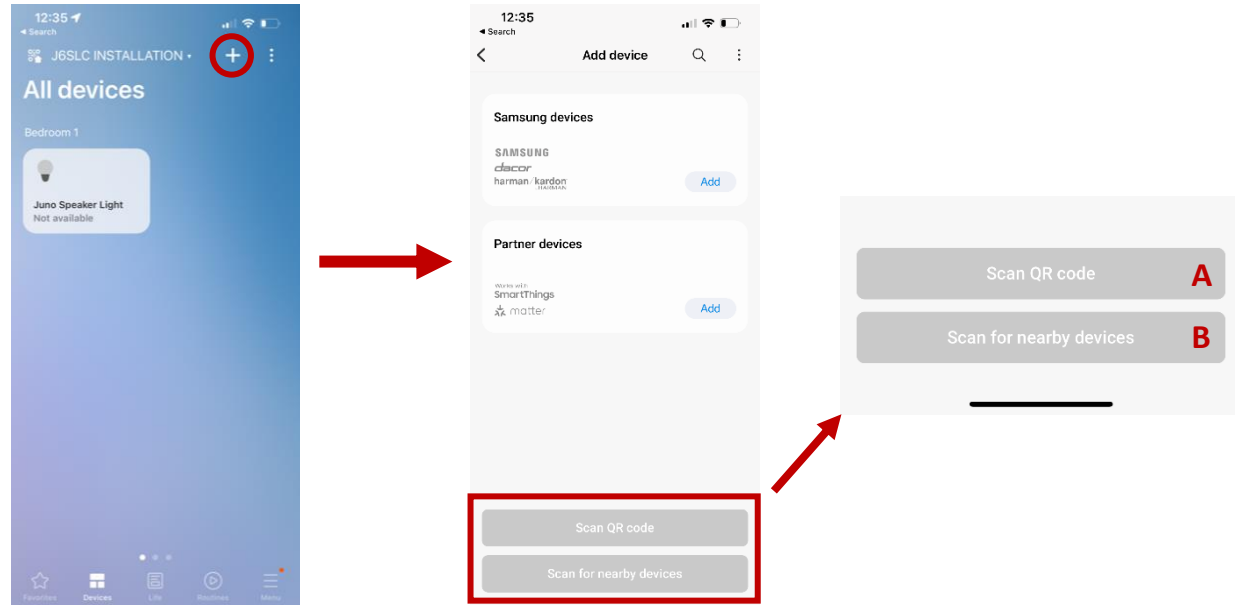

Figure 8
3. Connect the fixture to the SmartThings app by selecting the “+” sign on the top right corner of the interface and select “add device”. Use one of the methods below to connect the fixture. (Figure 8)